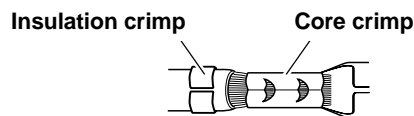

Figure B-12. Deutsch Crimping Procedure
- See Figure B-12. Squeeze the handles to cycle the crimp tool to the fully open position.